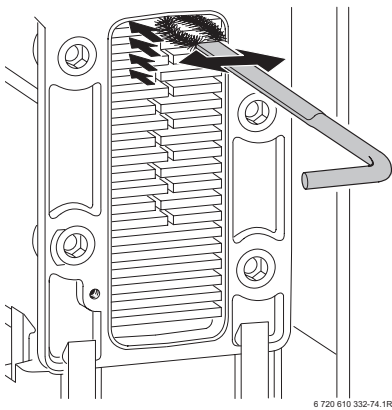

Fig. 55
- Clean the heat exchanger from top to bottom using the brush. Refer to fig. 55.